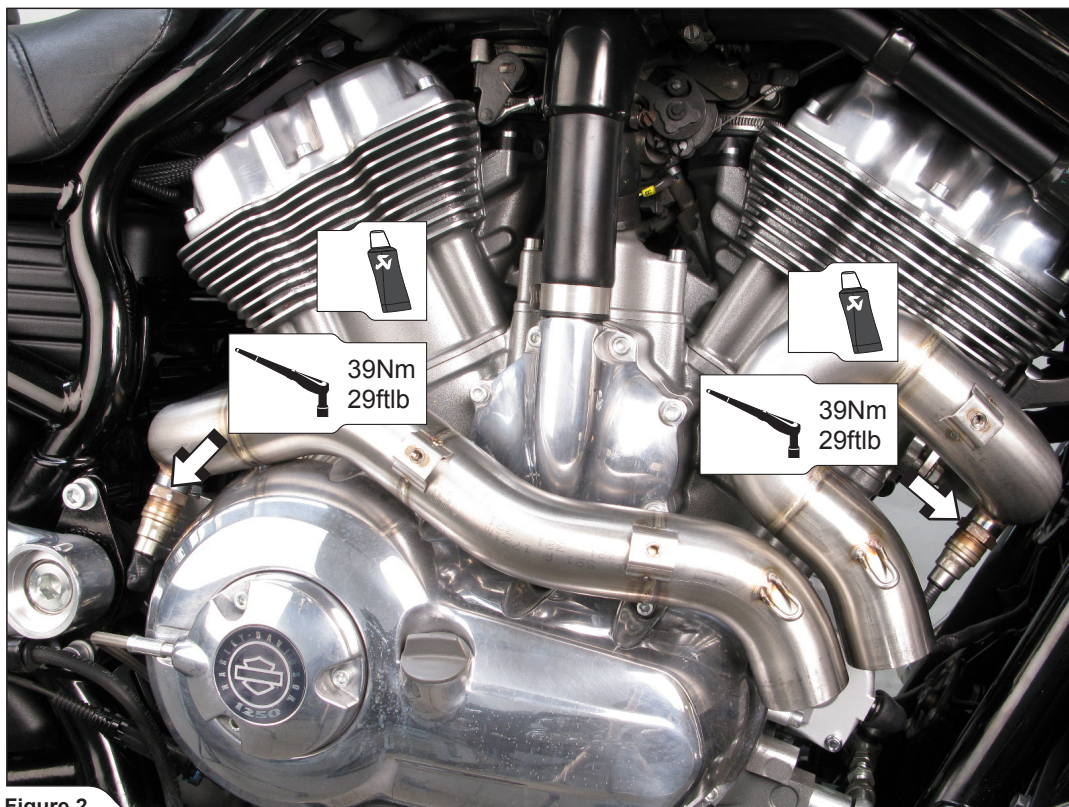

Figure 2
2. Install and tighten lambda sensors into the header pipes with specified torque (**Figure 2**).